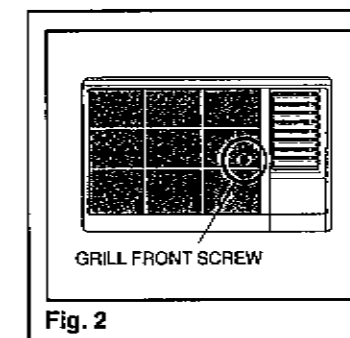

Fig. 2
- Remove the phillips screw (behind filter) securing the grill front to the chassis. (Fig. 2)